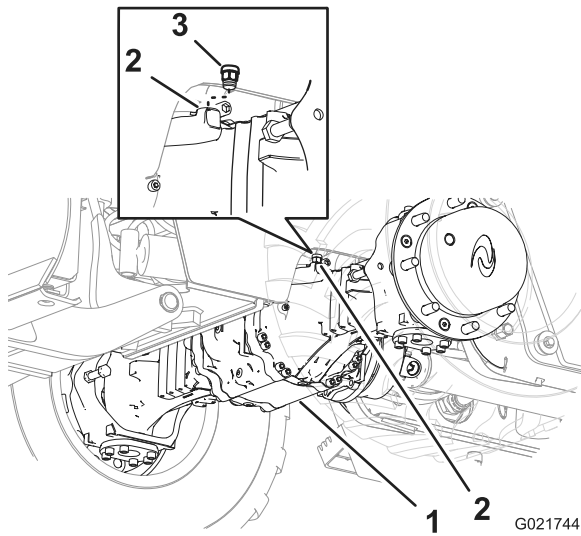
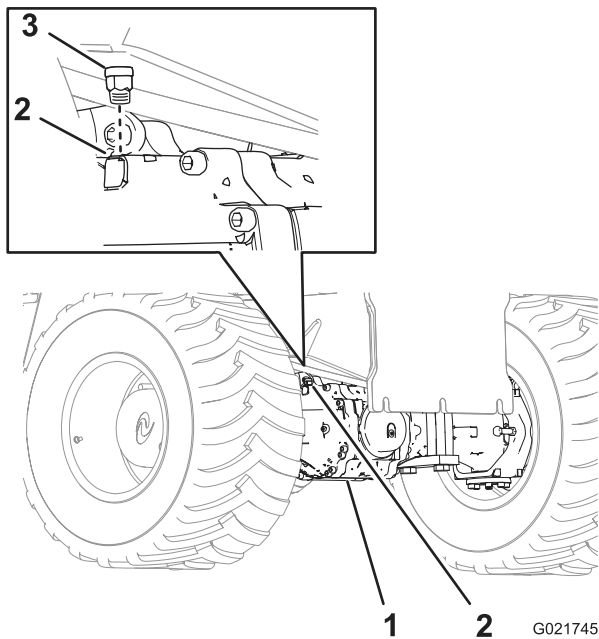

Figure 76
Figure 77
1. Clean the area around the breathers with a cleaning solvent (Figure 76 and Figure 77).
6. Install the breather in the front axle (Figure 76).
7. Install the breather in the rear axle (Figure 77).
2. Remove the breather from the front axle (Figure 76).
3. Remove the breather from the rear axle (Figure 77).